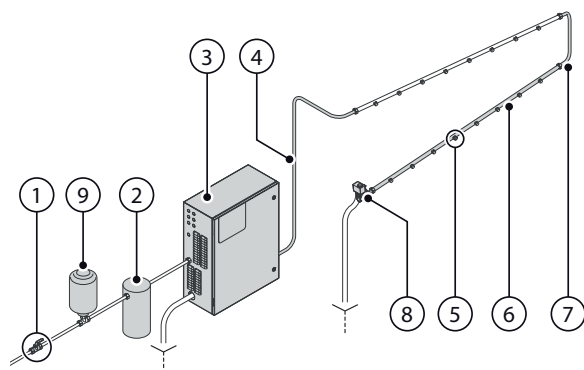

Fig. 7.a
- Racks (6 - Fig. 7.a) suitably secured so as to remain straight, especially at the joints.
- For vertical installation, distance between the racks (6 - Fig. 7.a) and the floor ≥ 500 mm.
- Outside covers supplied fitted on both drain solenoid valves (8 - Fig. 7.a).
- Partial choking of the drain solenoid valve outlets (e.g. by using 1/2" to 1/4" adapters or alternative couplings) (8 - Fig. 7.a)..
1. Open the manual valve (1 - Fig. 7.a) on the feedwater line and power on the unit.
2. Switch the unit on by moving the disconnect switch (1a - Fig. 7.b) to position I.